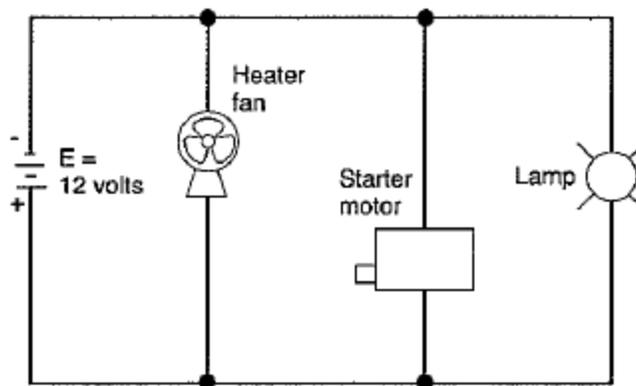

Figure 8.6: Parallel Circuit in an Automobile
- 8-38 In the circuit shown in Figure 8.6, the battery produces a potential difference of 12 volts between its terminals. This potential difference exists across all three loads—the heater fan, the starter motor, and the lamp. If the fan is turned off, the other equipment still works because the current continues in these branches.